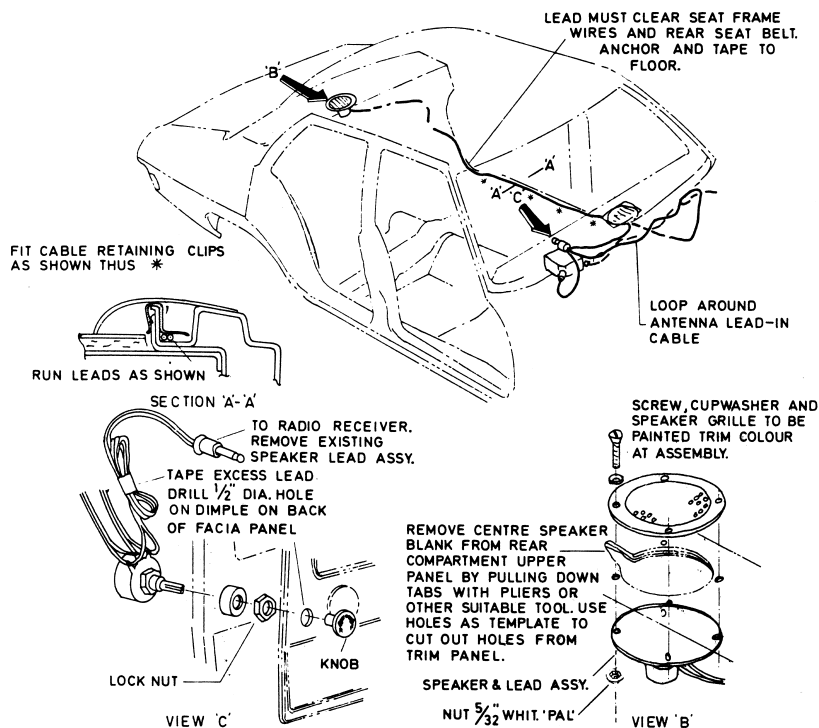

FIG. 5
6. ADDITIONAL SPEAKER (optional) - Fig. 5.